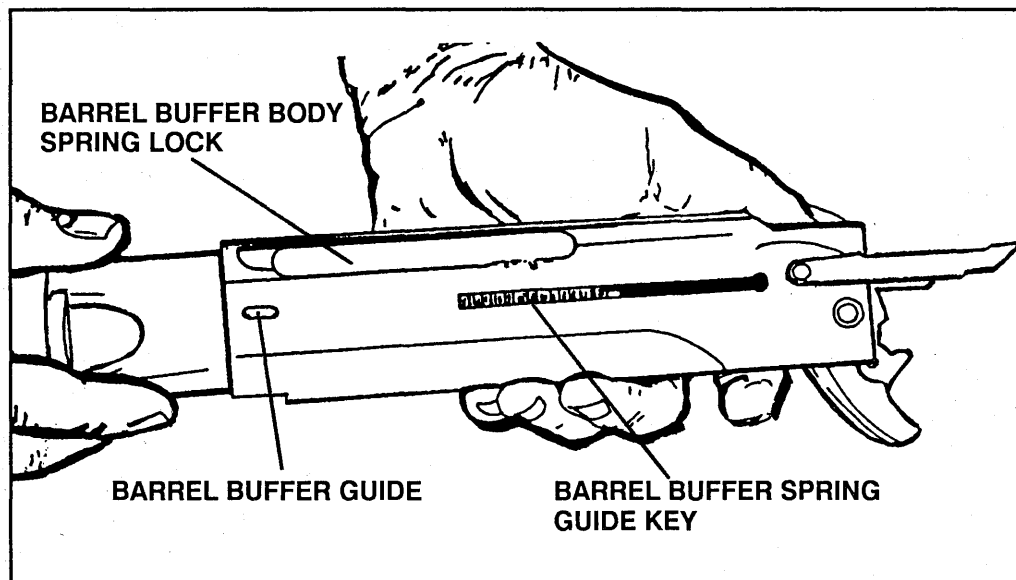

Figure 2-15. Replacing barrel buffer assembly.
a. **Barrel Buffer Assembly and Barrel Buffer Body Group.** Replace the barrel buffer assembly in the barrel buffer body group, with the key on the spring guide to the right. This key must fit in its slot in the right side of the barrel buffer body. Turn the barrel buffer tube until the screwdriver slot (in the rear of the tube) is vertical and the arrow is pointing to the right. The stud on the tube lock will now engage the serrations in the barrel buffer tube to keep the tube from turning. Push the barrel buffer assembly fully forward (Figures 2-15 and 2-16).